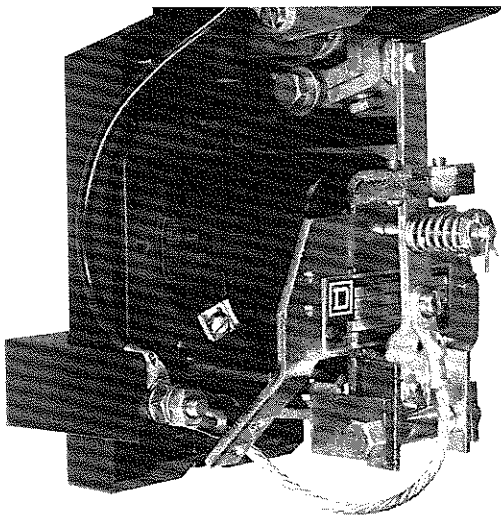

Figure 2
2. Check that the movable contact tip is securely fastened to the contact arm assembly (17) with the contact arm spring, cup washer and cotter pin and that the movable contact tip is properly seated in the slot in the contact arm assembly (Fig. 2).
3. Check that the stationary contact tip is properly seated against the stationary support of the contactor (Fig. 2).